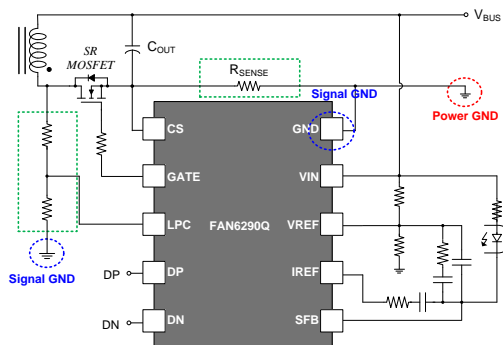

Figure 26 Power and Signal Ground on the Secondary-Side
- The main power flows through  $Q_2$ ,  $C_{OUT1}$ ,  $C_{OUT2}$  and  $R_{CS}$ . This power path should be separated with signal grounds which are connected to FAN6290Q. In addition, it is recommended that power ground is directly connected to Y-cap. Refer to Figure 26.